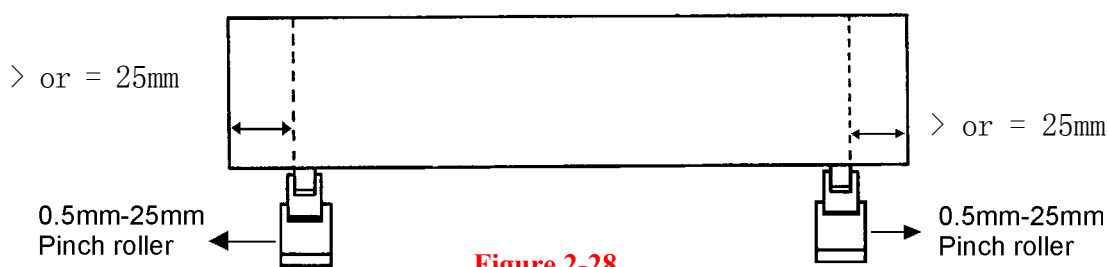

Figure 2-28
2. If the media length is greater than 4m, leave at least 25mm margin on the left and right edges of the media (see **Figure 2-28**).